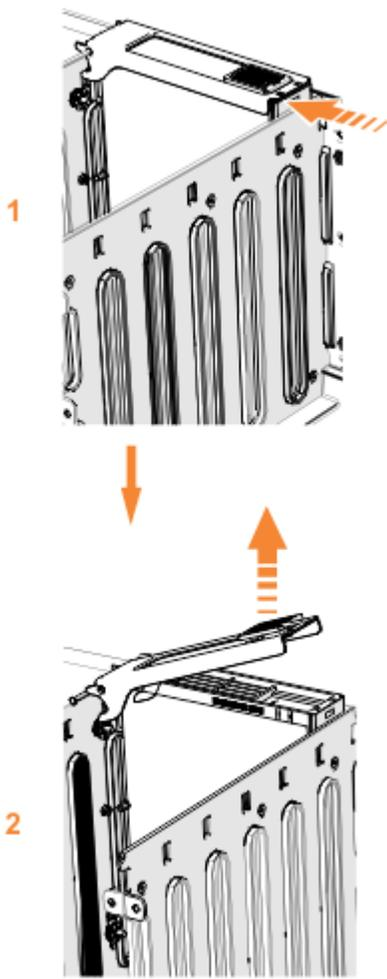

Figure 112. Remove the drive assembly
5. Slide the release latch forward (1), as shown in Figure 112 on page 104.
6. Lift the handle (2) to unlock the drive carrier from the partition, as shown in Figure 112 on page 104. Ensure the toe on the bottom of the latch is fully disengaged.